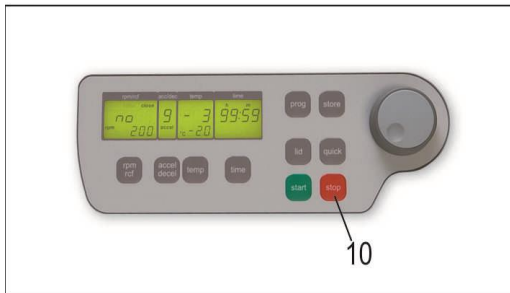

Figure 30
With the "stop" key (10), the run time can be interrupted, at any time, (see Figure 30). After pressing the key, the centrifuge decelerates with the respective pre-selected intensity, down to a standstill.